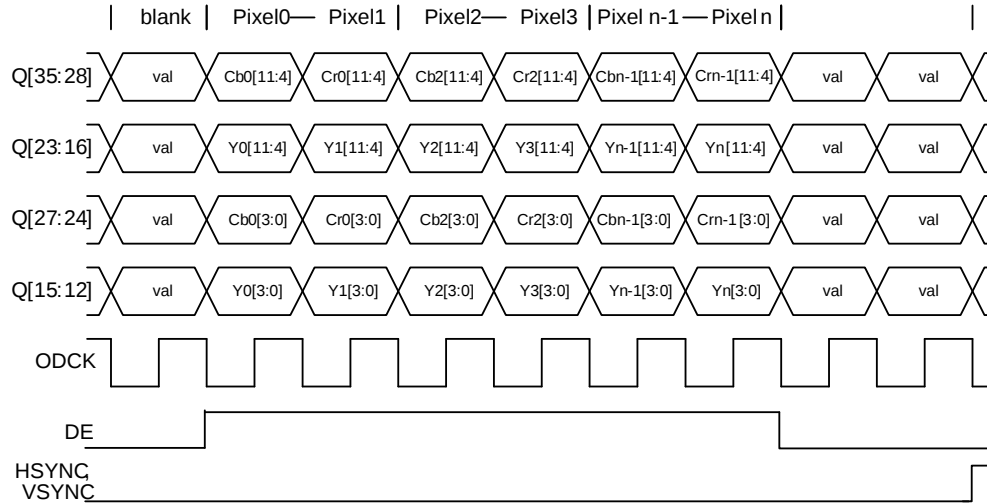

Figure 6.6. YC Timing Diagram
The YC 4:2:2 formats output one pixel for every pixel clock period. A luminance (Y) value is sent for every pixel, but the chrominance values (Cb and Cr) are sent over two pixels. Pixel data can be 24-bit, 20-bit or 16-bit. HSYNC and VSYNC are output separately on their own pins. The DE HIGH time must contain an even number of pixel clocks. Figure 6.6 shows timings with OCLKDIV = 0 and OCKINV = 1.